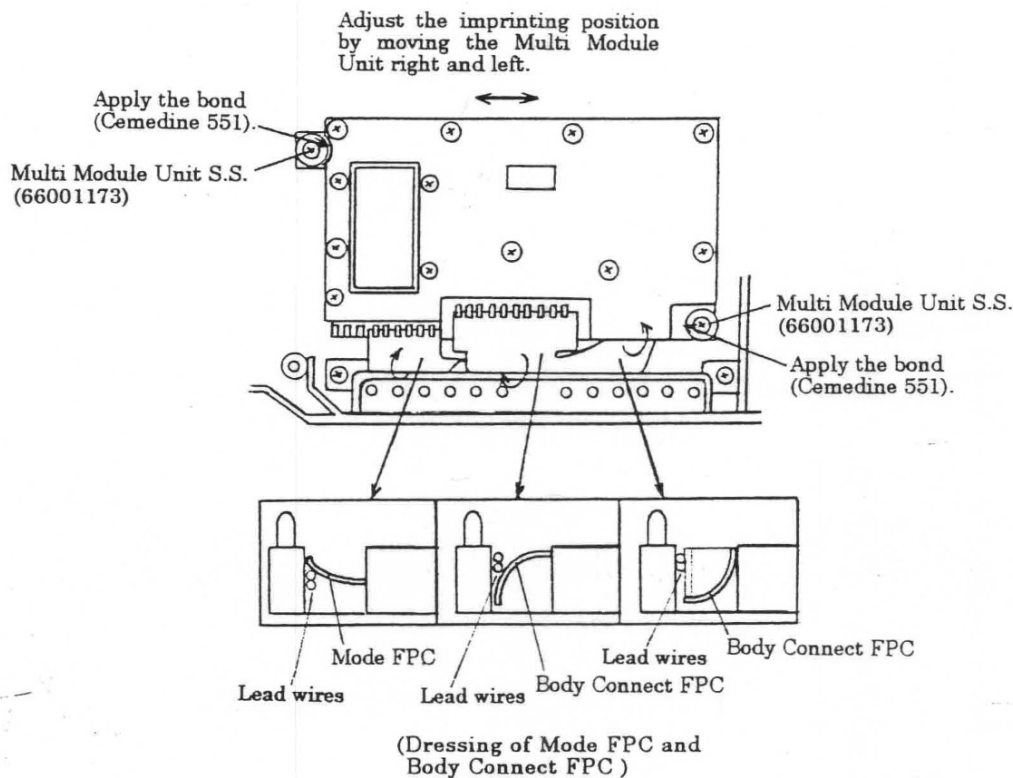

Fig.54
- 4) Dress the Mode FPC and Body Connect FPC as shown in Fig. 54.